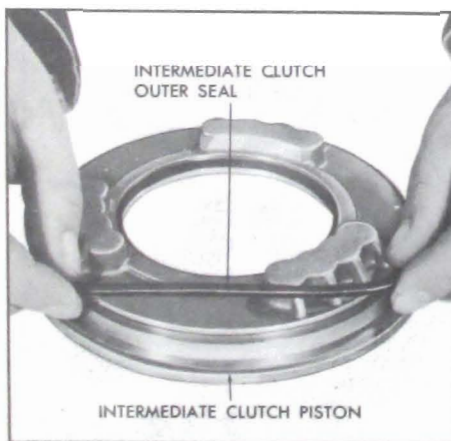

Figure 5-651A.
6. Remove the outer piston seal. See Figure 5-651A.